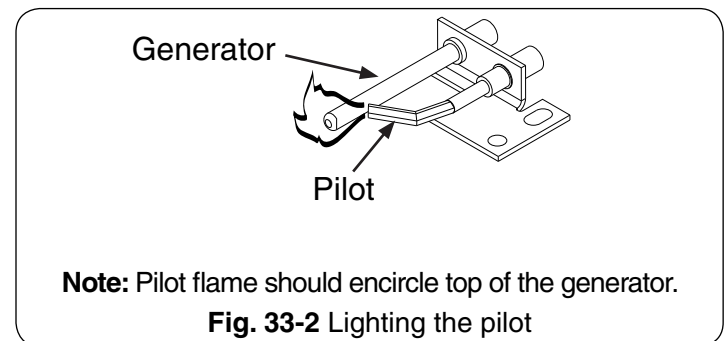

Fig. 33-2 Lighting the pilot
- a. The pilot flame should encircle the generator tip, and is preset at the factory (Fig. 33-2).